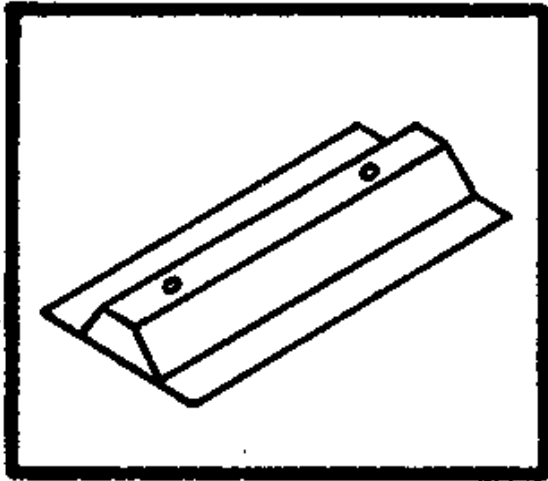

**Fig. 22 - "Frog" Mold.**
71. Frog A wooden "frog" (see Fig. 22)